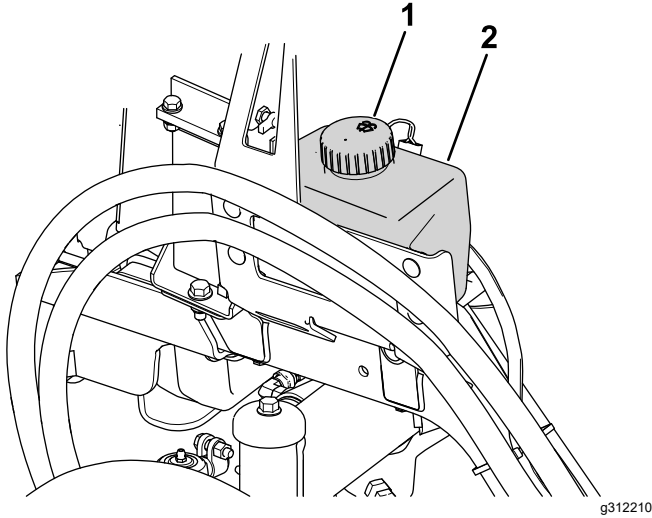

Figure 86
1. Remove the cap (Figure 86) on the reservoir.